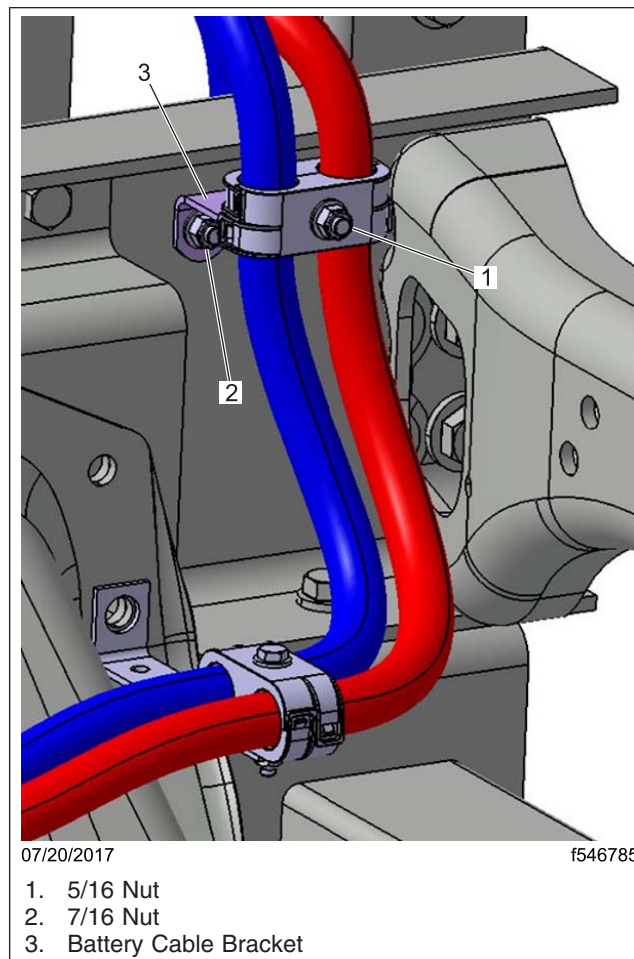

Fig. 1, Battery Cable Bracket, Correct Installation
3. Inspect the battery cable bracket for correct orientation. The bracket should be installed on the frame rail so that the battery cables do not rub the frame rail or any other components. See Fig. 1.
2. Loosen the 7/16 nut that attaches the battery cable bracket to the frame rail and correctly rotate the bracket as shown in Fig. 1.
3. If the battery cable bracket is missing, install it on the frame rail using the 7/16 nut and washer assembly. See Fig. 1 for proper installation.